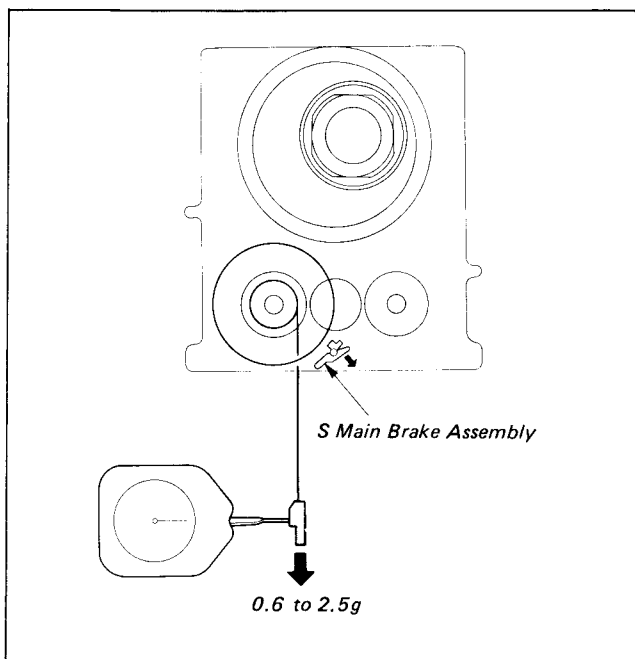

Fig. 1-66
- 4) Pull the dial tension gauge (Ref. No. J-6) toward the arrow and check that the value satisfies the required value. (See Fig. 1-66.)